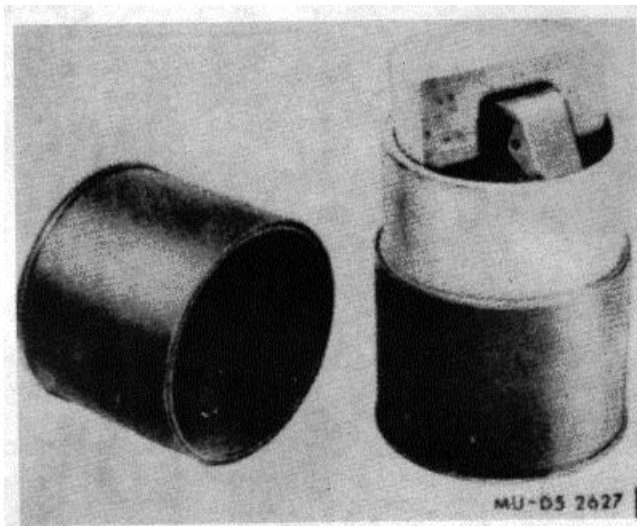

Figure 2-0.2. Hand grenades packed right side up (fuze up) without safety pin and pull ring. MU-D5 2627
- **IF HAND GRENADE IS PACKED UPSIDE DOWN (FUZE DOWN) (-G. 2-0.1), OR RIGHT SIDE UP F-UZE UP) WITH SAFETY PIN .NOT IN PLACE (FIG. 2-0.2), DO NOT ATTEMPT TO REMOVE GRENADE FROM ITS CONTAINER.**
- **WHEN EXPOSED TO RED PHOSPHORUS (RP) OR HEXACHLOROETHANE (HC) SMOKE OR ANY RIOT CONTROL AGENT, THE FOLLOWING RECAUTIONS APPLY:**